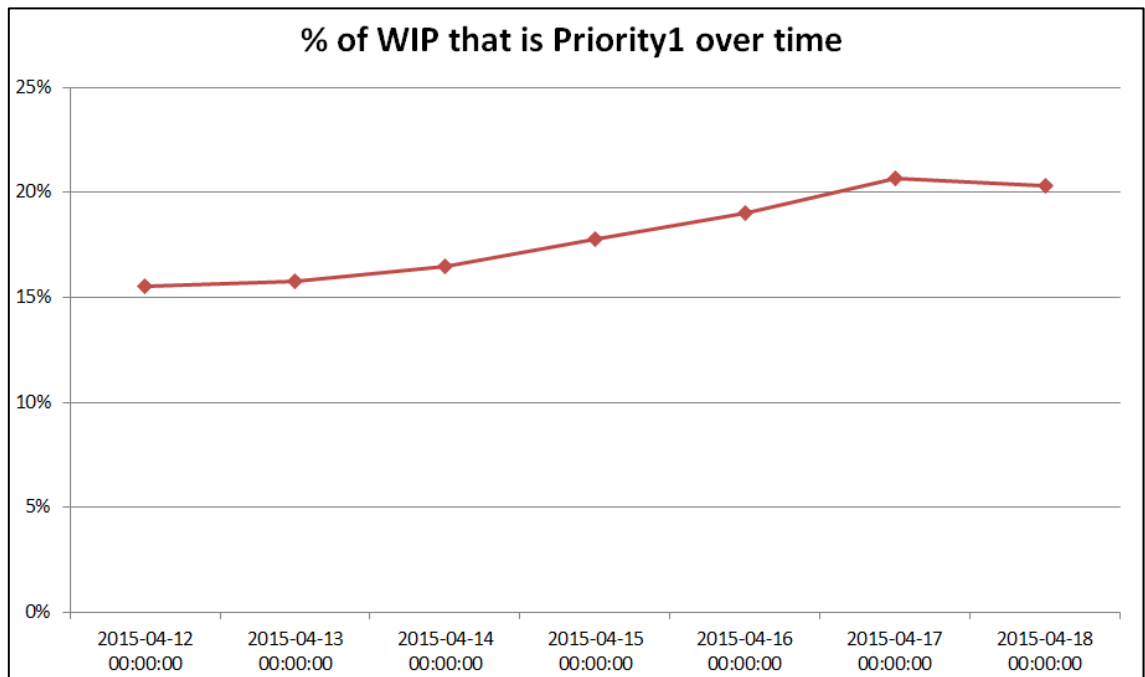

Figure 1. Example of percentage of Priority1 lots over time, generated from FabTime data exported to Excel
- Percentage of regular hot lots, as shown previously in Figure 1.